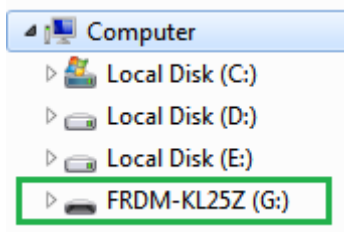

Figure 2. Left pane of Windows Explorer
- This time, without pressing the **RST** button, the FRDM_KL25Z device should appear on the left pane of the Windows File Explorer as pictured in Figure 2.